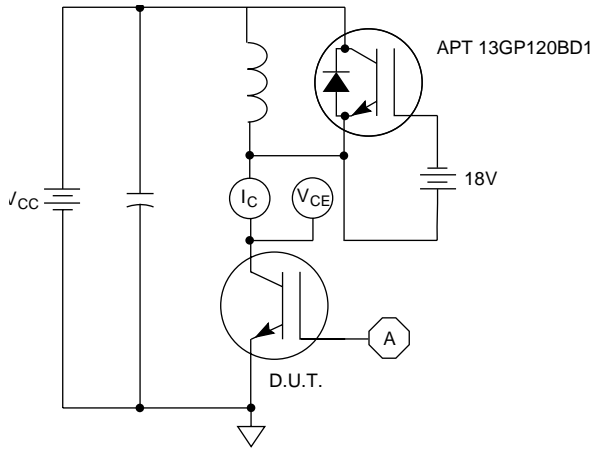

Figure 21, Inductive Switching Test Circuit
- ⑤ E_{on2} is the clamped inductive turn-on energy that includes a commutating diode reverse recovery current in the IGBT turn-on switching loss. A Combi device is used for the clamping diode as shown in the E_{on2} test circuit. (See Figures 21, 22.)
- ⑥ E_{off} is the clamped inductive turn-off energy. (See Figures 21, 23.)